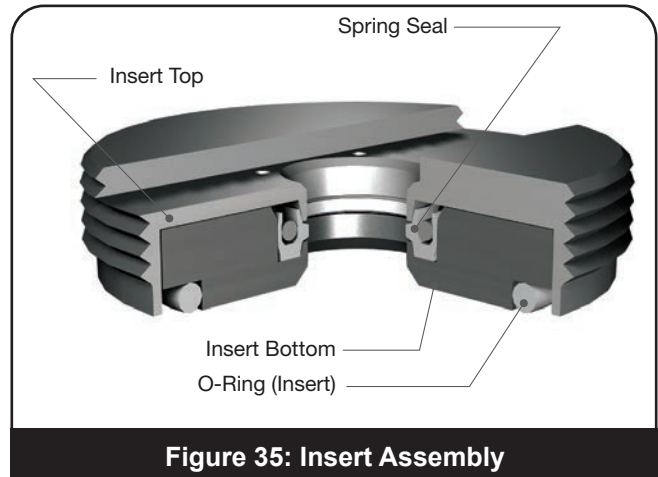

Figure 35: Insert Assembly
- e. Final Insert Assembly is shown in Figure 35.